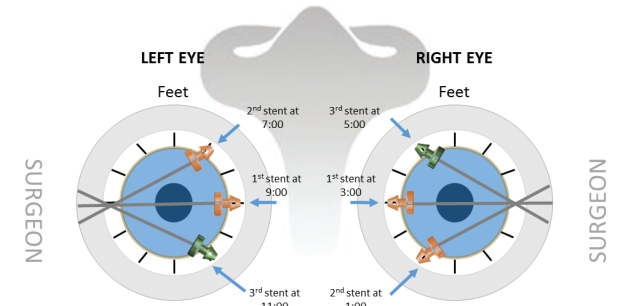

Figure 4. iStent infinite Implant Location
- f. Inspect AC angle structures with a gonioscope to ensure that a good view is available at the nasal implant location. Identify the 3 targets approximately 2 clock hours apart for best implantation of the stents. See Figure 4.